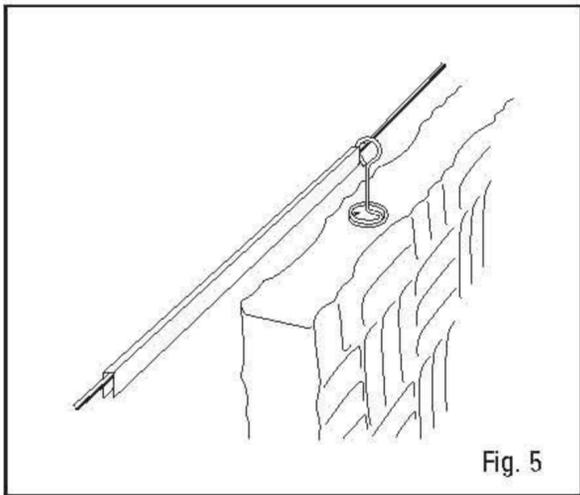

Fig. 5
- W5. Slide baffles across the cable. Insert pinta spacers between baffles for even placement across the cable span (Figure 5). Spacers can be used on the ends of cables to keep baffles clear of objects, or between baffles to create openings for ductwork or light fixtures.